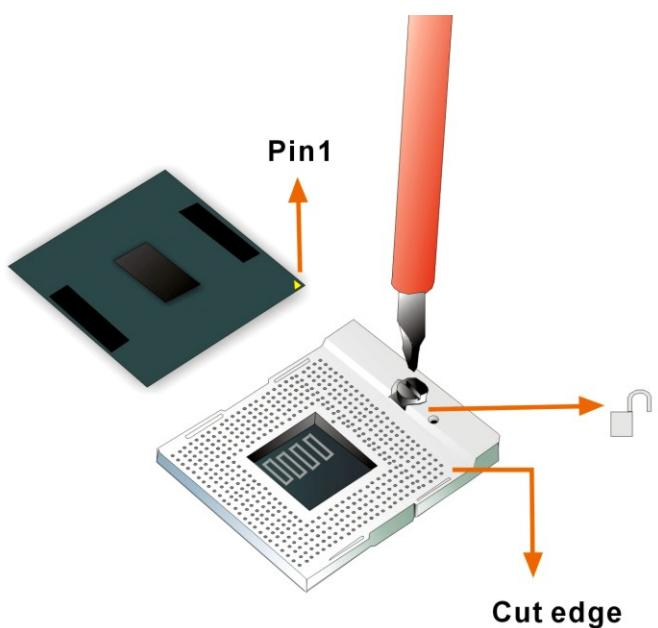

Figure 4-1: Make sure the CPU socket retention screw is unlocked
Step 1: Unlock the CPU retention screw. When shipped, the retention screw of the CPU socket should be in the unlocked position. If it is not in the unlocked position, use a screwdriver to unlock the screw. See **Figure 4-1**.
Step 4: Correctly position the CPU. Match the Pin 1 mark with the cut edge on the CPU socket. See **Figure 4-1**.